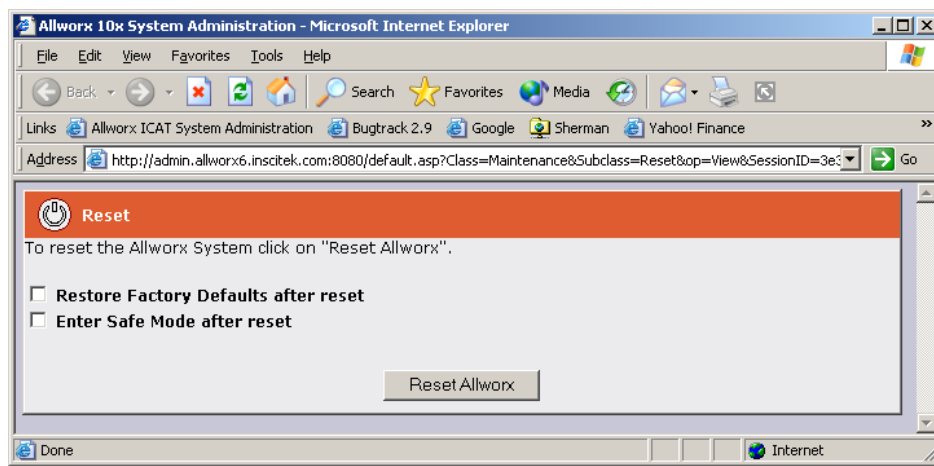

Figure 8-1 – System Reset Dialog Box
5. Click the System Reset button to shut down and restart the Allworx system. The window in Figure 8-1 will appear.
7. Click the System Reset button to shut down and restart the Allworx system. The window in Figure 8-1 will appear.